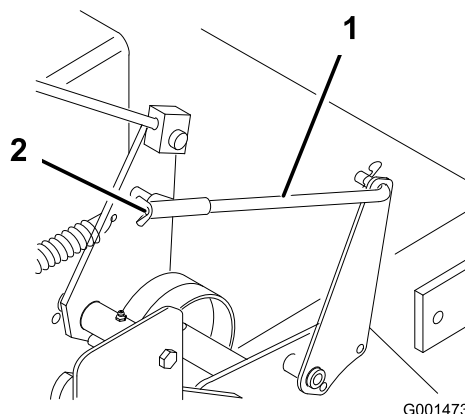

Figure 35
5. To adjust the brake, rotate the wing nuts on the brake rods (Figure 35).